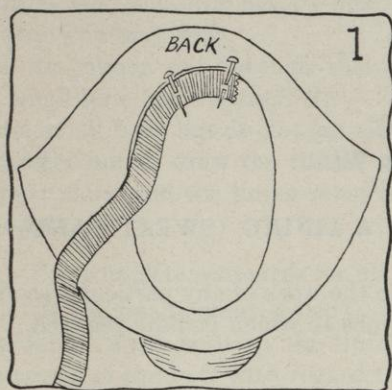

FIG. 1.
- c.* To cut tip, follow *either* Section (1) *or* Section (2).
- (1) If you are using a crown tip already embroidered, measure it and cut it down to a 6-inch square (see Figure 1 *A*, page 299), but be careful not to cut any of the embroidery.
(2) For other tips, follow *either* Section (a) or (b).
(a) If there is a small piece of the kind of material you are using, cut a 6-inch square from that, as economically as possible (see Figure 1 B).
(b) If there is no small piece of the kind of material you are using, measure a 6-inch square from the straight end of the material, in the most economical way (see Figure 1 C).
- c. Put another pin 2 inches to the left of the first pin (see Figure 1).